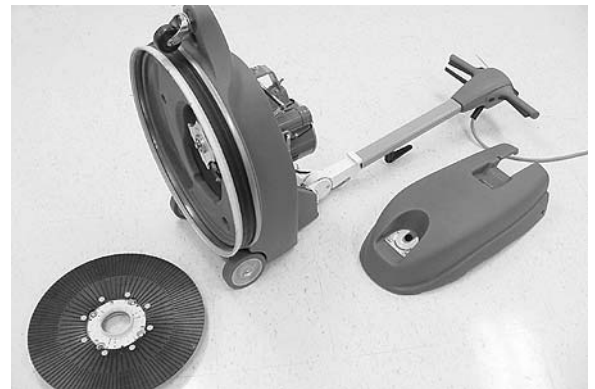

FIG. 13
1. Remove the pad driver and the motor cover from the machine (Figure 13).